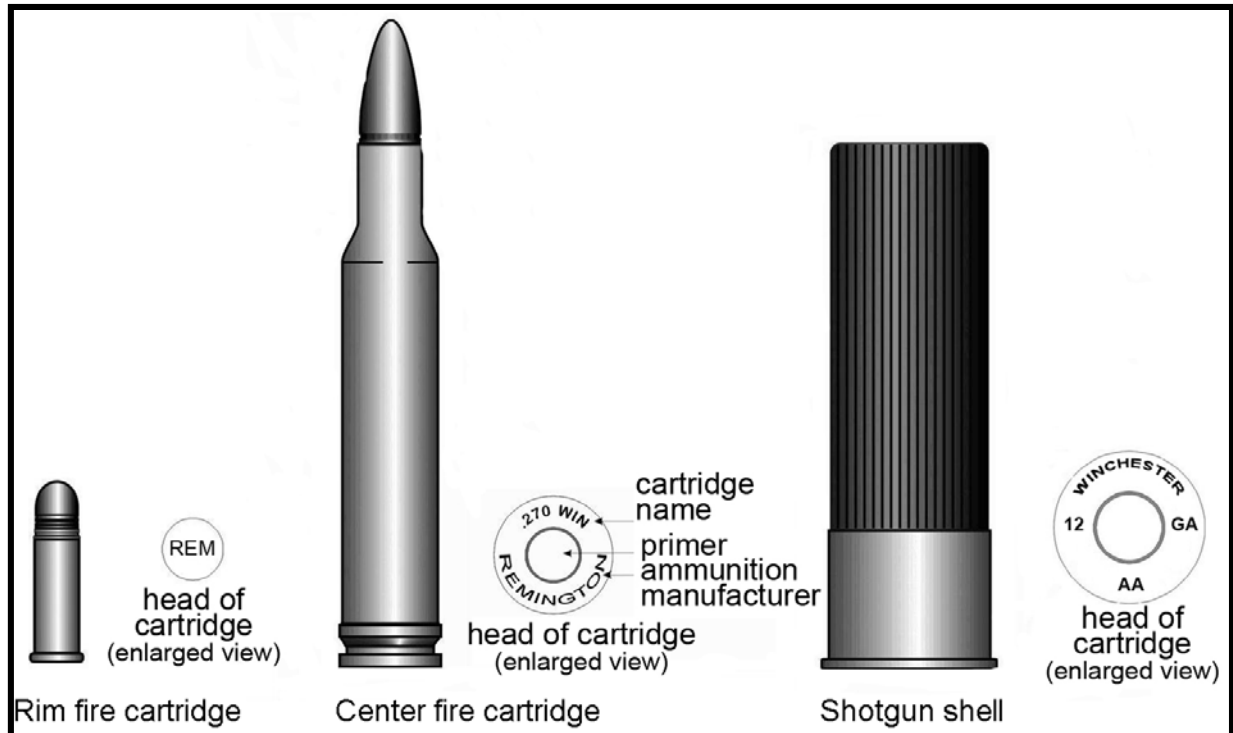

Figure 7. Examples of Modern Ammunition and Cartridge Head Stamps
- c. In the mid-1800s, various cartridge types were developed that made breech loading practical. Eventually, metal-cased cartridges similar to modern ones were created (Figure 7).